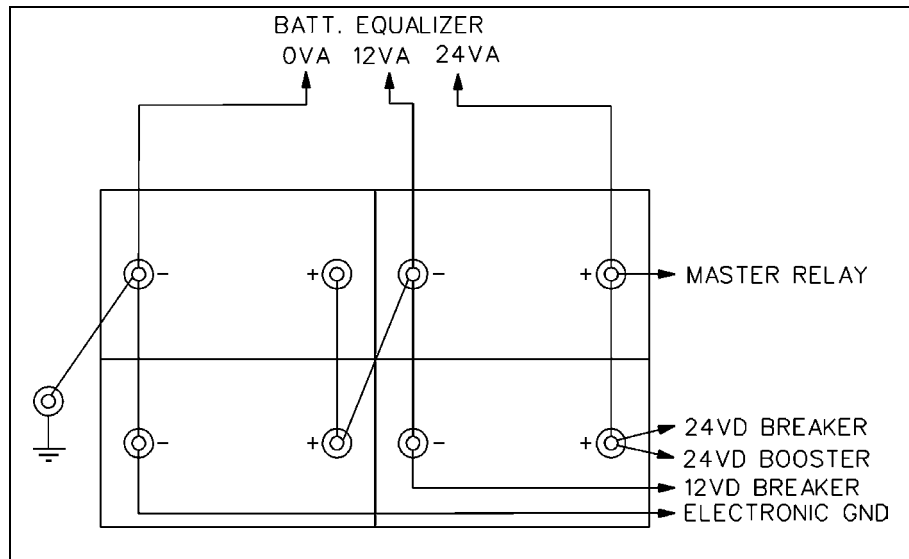

Fig.8 Batteries installation and connexion.
13. Secure the batteries in the box with the two (2) hold-down bars.
14. Reconnect the batteries following Fig.8 bellow.